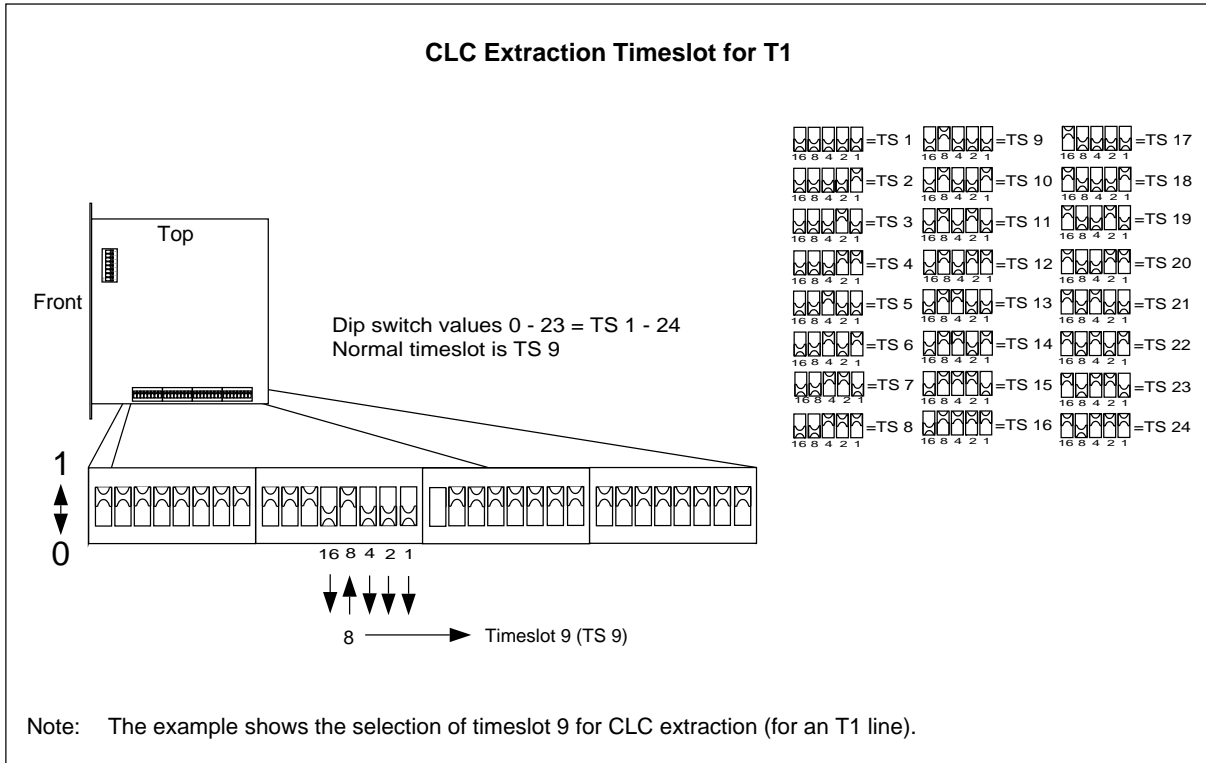

Figure 4-26. Setting the CLC Extraction Timeslot for T1
12. For a T1 PCM line, select the time slot (TS) for Control signaling Link (CLC) extraction, as shown in Figure 4-26 on page 4-43, in accordance with the *Configuration Data* in the *Site Installation Documentation*.